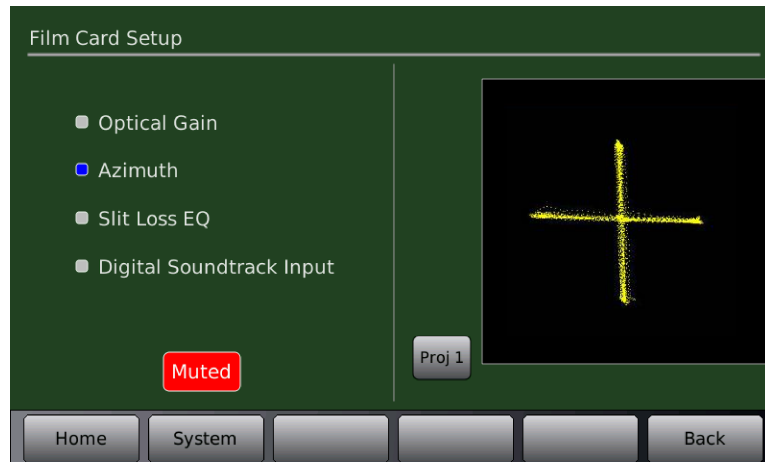

Figure 15 – Optimum LED to lens alignment
- ☒ Note: while running the CAT 97 test film you can also select Azimuth in the AP25's optical set up screen. If alignment is correct you should be able to observe a cross on the screen as shown in **Figure 15**. The same applies to viewing on the oscilloscope in X/Y mode.
This can also be viewed on the AP25 screen by going to **Menu (System) → Formats → Format Options → Film Options → Film Setup** and Selecting **Azimuth** (see **Figure 15**).